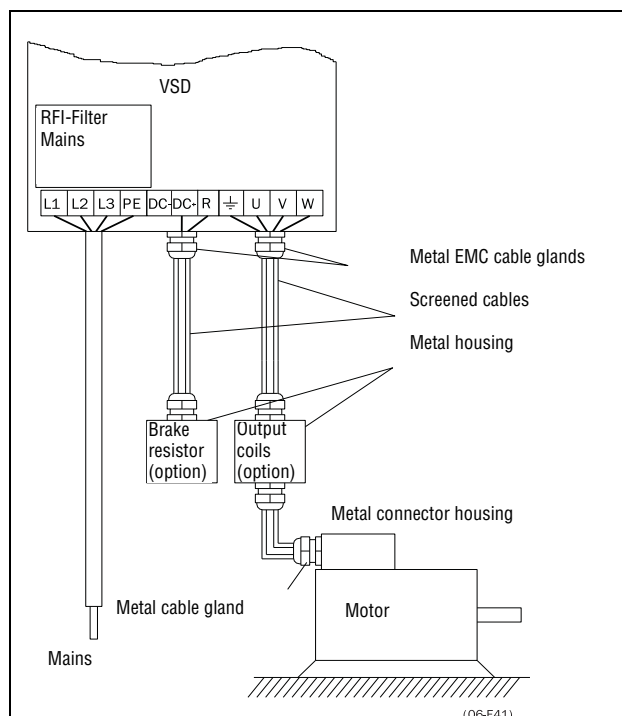

Fig. 26 Variable speed drive as stand alone
- The litz ground connection, see fig. 26, is only necessary if the mounting plate is painted. All the variable speed drives have an unpainted back side and are therefore suitable for mounting on an unpainted mounting plate.
Fig. 26 shows an example when there is no metal mounting plate used (e.g. if IP54 variable speed drives are used). It is important to keep the “circuit” closed, by using metal housing and cable glands.